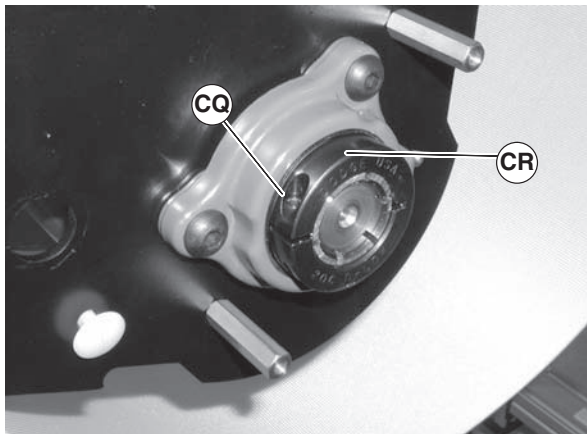

**Figure 81**
8. Temporarily support the drive pulley (Figure 81, item CU).